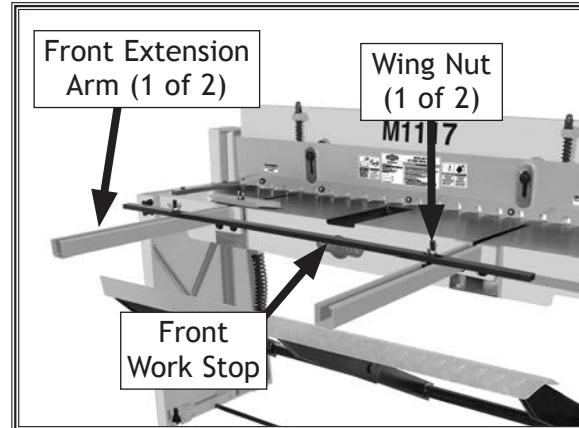

Figure 20. Front work stop components.
1. Loosen (2) front work stop wing nuts (see Figure 20).
2. Slide front work stop out of front extension arms to remove (see Figure 20).